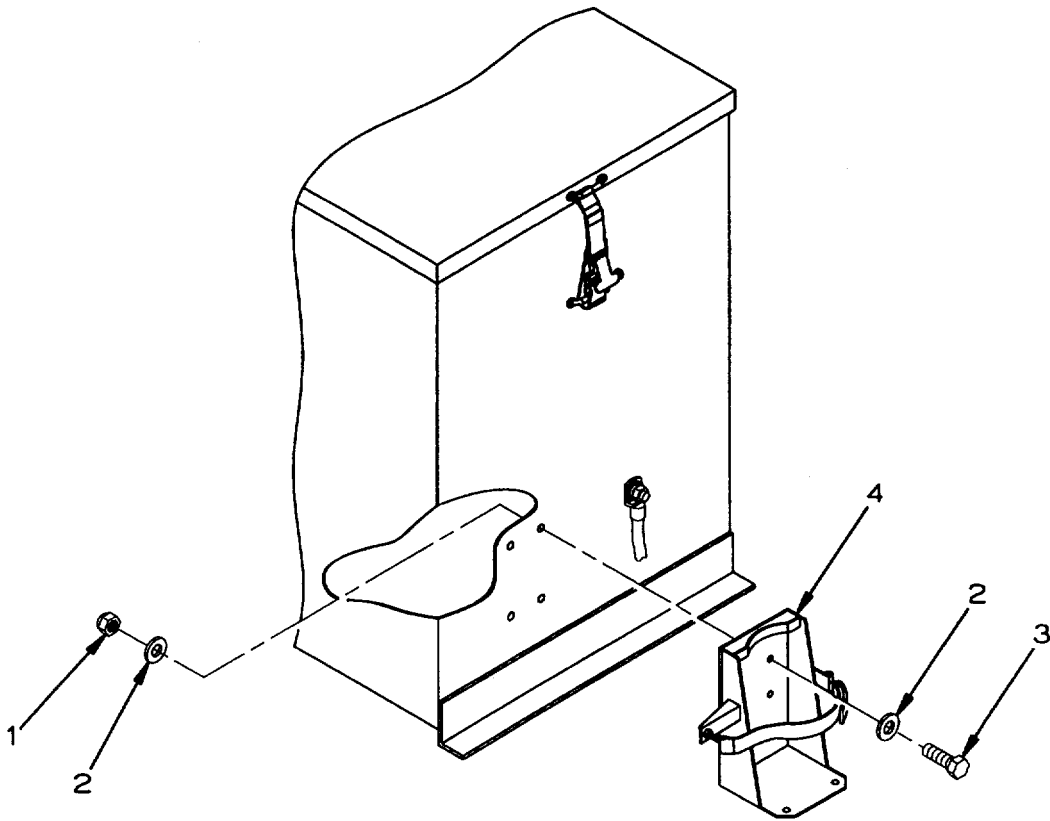

Figure 4-14. Fire Extinguisher Bracket Maintenance (Typical).
3. Remove four self-locking nuts (1, figure 4-14), flat washers (2), cap screws (3), and remove fire extinguisher bracket (4).